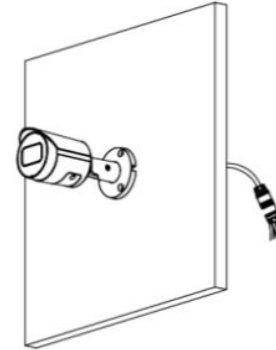

Figure 2-3
Step 3 Pull the cables through (if applicable) and tighten down the camera base screws. See Figure 2-3.